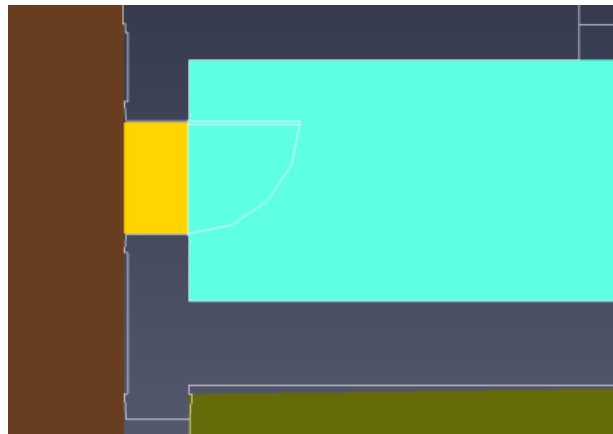

Figure 53. Thick door connecting the rooms
3. The created door will appear as an orange rectangle in the 3D and 2D views as shown in Figure 53.